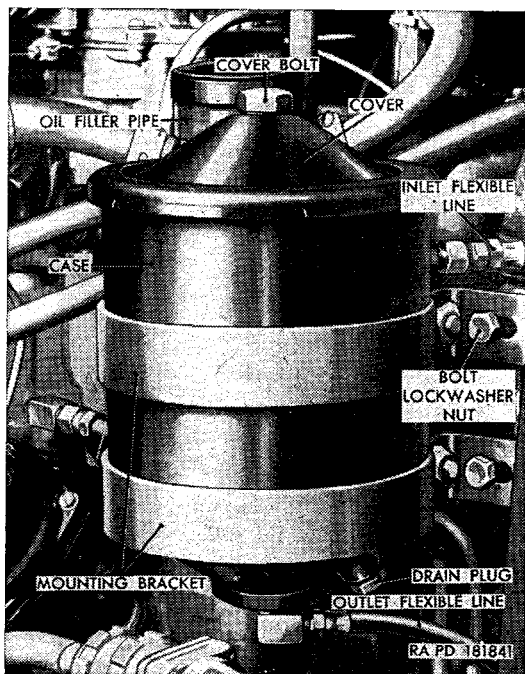
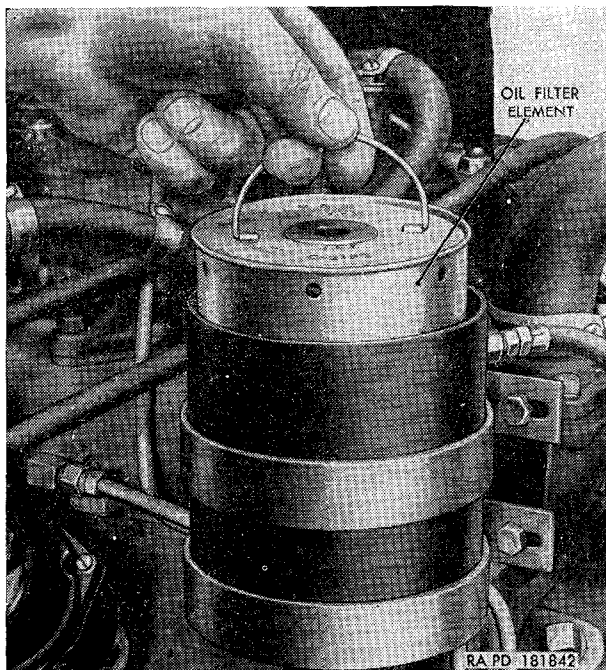

Figure 49. Oil filter assembly installed.
Figure 50. Removing oil filter element.
- (1) Raise the hood (par. 255*a*). Place a suitable container under the oil filter assembly, remove the drain plug (fig. 49), and allow oil to drain. Install drain plug after oil has drained.
- (2) Unscrew cover bolt and lift the oil filter cover off the oil filter case. Remove and discard the cover seal from the inside of the cover. The cover spring, located on the inside of the cover, seats on the bolt. It is not necessary to pull the spring off the bolt.
- (3) Wipe the top surface of the oil filter element (fig. 50) clean, grasp handle on element, and lift element out of the oil filter case. Clean inside of case with dry-cleaning solvent or volatile mineral spirits.
- (1) Align the hole in the new oil filter element (fig. 50) with the mounting stud in the oil filter case and slide the element down on the stud, making certain the element seats properly in the case.
- (2) Install a new cover seal in the inside of the oil filter cover. Position the cover on top of the case, and secure the cover to the case by tightening the cover bolt (fig. 49).
- (3) Start and run engine to check for leaks at cover. Tighten cover bolt if necessary. Add oil to the engine lubricating system to bring the oil to the proper level (par. 69).
- (4) Close the hood (par. 252b).
- (1) Drain the oil filter assembly (par. 114a(1)).
- (2) Unscrew the oil filter inlet flexible line (fig. 49) from the connector installed in the oil filter case.
- (4) Remove the two bolts and lockwasher nuts securing the upper of the two oil filter mounting brackets (fig. 49) to the mounting bracket mounted on the cylinder head. Remove the bolt and lockwasher nut securing the right side of the lower of the two mounting brackets to the bracket on the cylinder head. Remove the lockwasher nut securing the left side of the lower bracket of the two mounting brackets to the
- (4) Remove the fuel and vacuum pump assembly (par. 137a).
- (5) Unscrew the inlet line from the elbow installed in the side of the cylinder block. Remove the inlet line and slide the two clips and looms off the line.
- (6) Disconnect the lower end of the oil filter outlet flexible line assembly (par. 115a(3)). Unscrew and remove the outlet line from the connector in the oil filter case (fig. 49).
- (1) Slide two looms and clips on the oil filter inlet flexible line assembly. Screw the lower end of the inlet line to the elbow in the side of the cylinder block.
- (2) Position one clip over one loom and secure the clip to the timing gear cover and the engine front mounting plate with a $\frac{3}{8} \times \frac{3}{4}$ bolt and $\frac{3}{8}$ -inch lockwasher nut.
- (3) Position the other clip over the other loom and secure the clip to the water pump assembly, and the water pump assembly to the cylinder block with a $\frac{5}{16}$ -inch lockwasher nut and $\frac{5}{16} \times \frac{7}{8}$ bolt.
- (4) Connect the inlet flexible line (fig. 49) to the oil filter case (par. 115b(3)).
- (5) Connect the oil filter outlet flexible line assembly to the connector in the oil filter case. Connect the lower end of the outlet line to the connector in the timing gear cover.
- (6) Install the fuel and vacuum pump assembly (par. 137*b*).
- (7) Check installation (par. 115*b*(5)).
- (8) Close the hood (par. 255*b*).